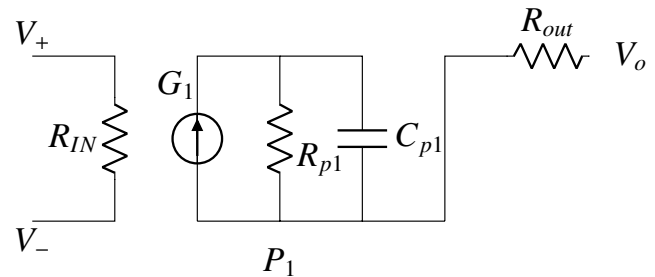

Fig. 7.8
7. Circuit level schematic of op-amp used for simulation, is in fig. 7.8 Since we need a single pole op-amp having $\omega_{3db} = 10\text{rad/s}$ ($f_{p1} = \frac{10}{2\pi}\text{Hz}$), we choose a R_{p1} appropriately and calculate the value of C_{p1} according to our single pole roll off frequency.